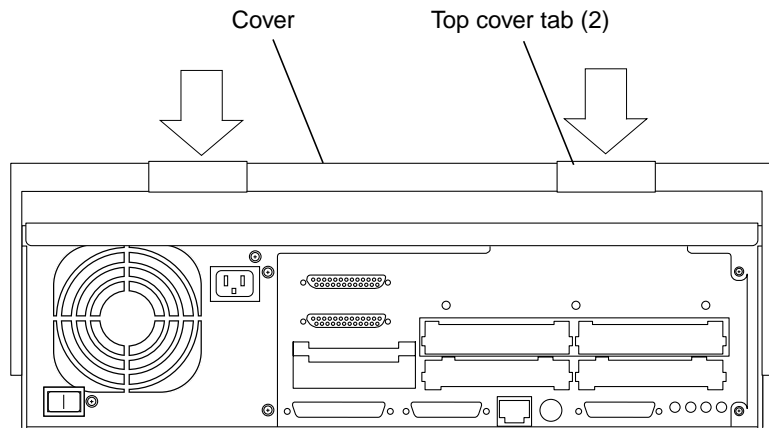

FIGURE 2-7 Replacing the Ultra 2 System Cover
3. Lower the cover onto the system so that the rear of the cover is supported by the chassis back panel (FIGURE 2-7).